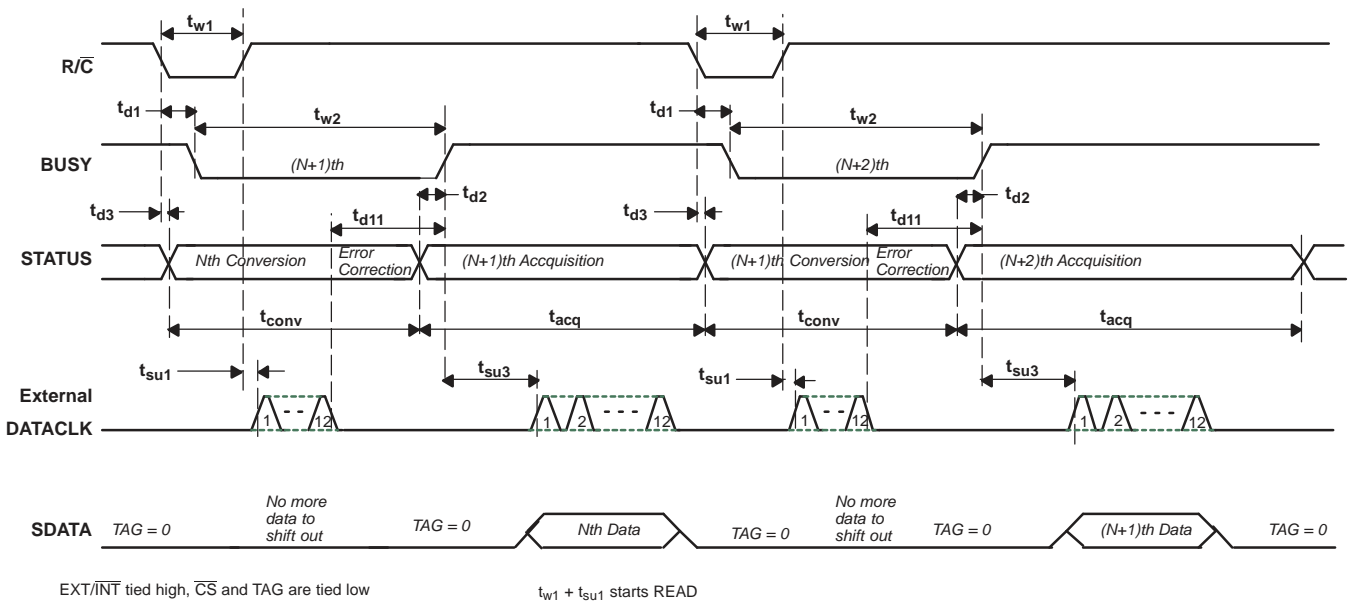
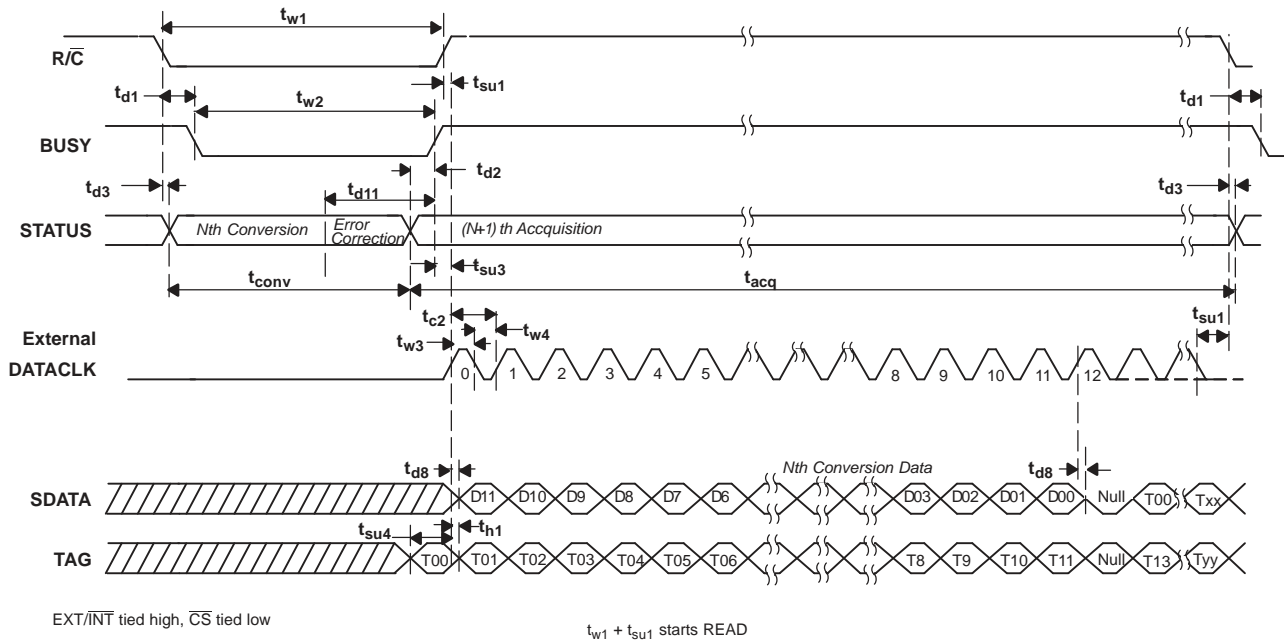
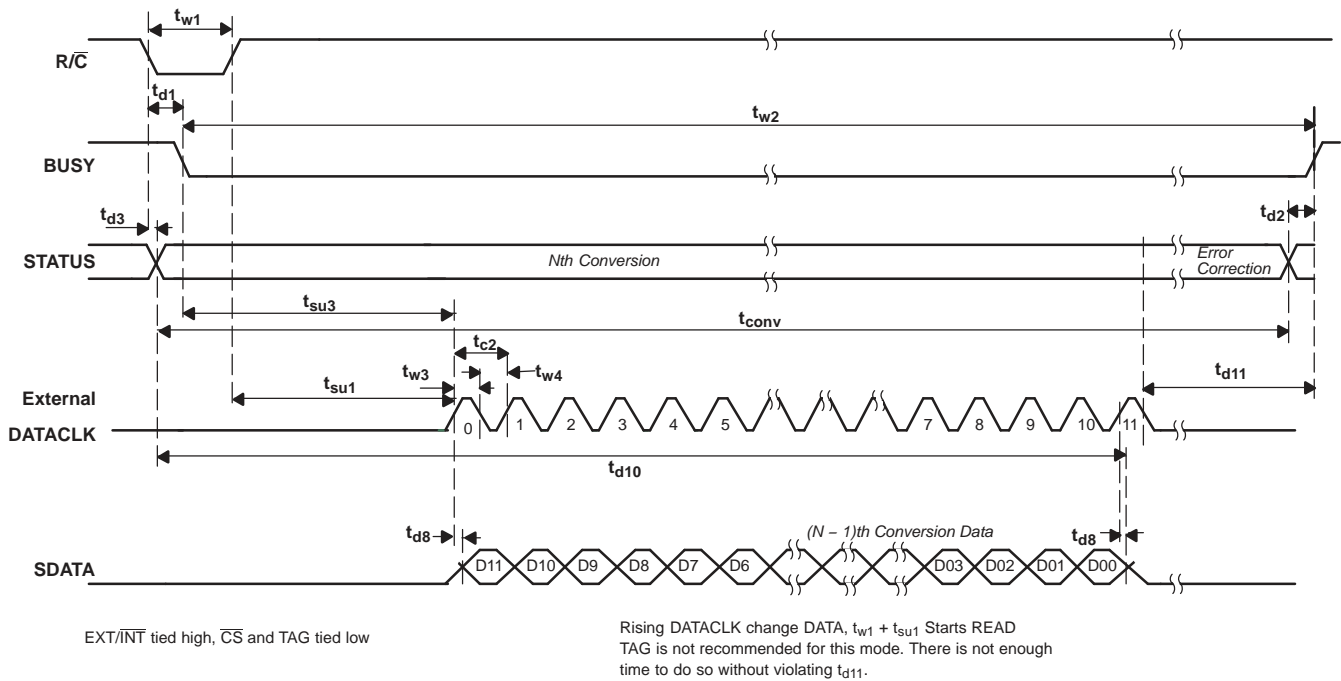

Figure 37. Basic Conversion Timing - External DATACLK
Figure 38. Read After Conversion (Discontinuous External DATACLK)
Figure 39. Read During Conversion (Discontinuous External DATACLK)
(1) See Figure 37, Figure 38, and Figure 39 for constraints on data valid from conversion  $N-1$ .
After conversion  $N$  is completed and the output registers have been updated,  $\overline{\text{BUSY}}$  (pin 24) goes high. With  $\overline{\text{CS}}$  low and  $\text{R}/\overline{\text{C}}$  high, valid data from conversion  $N$  is output on  $\text{SDATA}$  (pin 19) synchronized to the external data clock input on  $\text{DATACLK}$  (pin 18). The MSB is valid on the first falling edge and the second rising edge of the external data clock. The LSB is valid on the 12th falling edge and 13th rising edge of the data clock.  $\text{TAG}$  (pin 20) inputs a bit of data for every external clock pulse. The first bit input on  $\text{TAG}$  is valid on  $\text{SDATA}$  on the 13th falling edge and the 14th rising edge of  $\text{DATACLK}$ ; the second input bit is valid on the 14th falling edge and the 15th rising edge, etc. With a continuous data clock,  $\text{TAG}$  data is output on  $\text{SDATA}$  until the internal output registers are updated with the results from the next conversion. Refer to Table 6 and Figure 38.
After conversion  $N$  has been initiated, valid data from conversion  $N-1$  can be read and is valid up to 12  $\mu\text{s}$  after the start of conversion  $N$ . Do not attempt to clock out data from 12  $\mu\text{s}$  after the start of conversion  $N$  until  $\text{BUSY}$  (pin 24) rises; this results in data loss. NOTE: For the best possible performance when using an external data clock, data should not be clocked out during a conversion. The switching noise of the asynchronous data clock can cause digital feedthrough degrading the converter's performance. Refer to Table 6 and Figure 39.